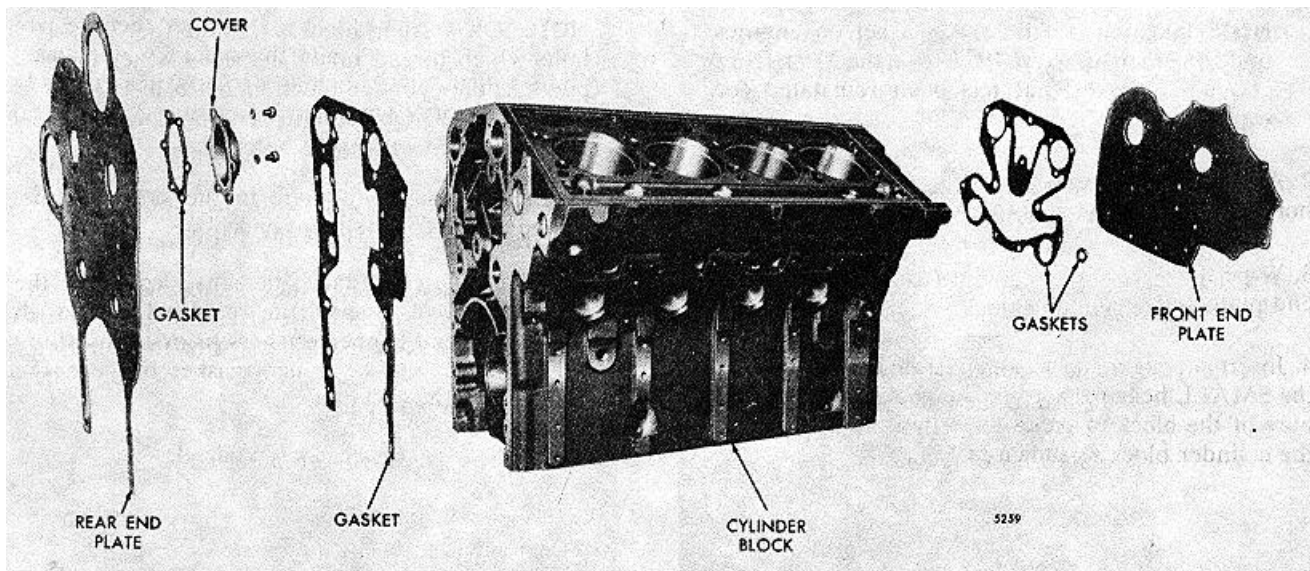

FIG. 1 - Cylinder Block End Plates and Relative Location of Parts
1. Affix new gaskets to the ends of the cylinder block, using a non-hardening gasket cement. Also apply an even coating of gasket cement to the outer surface of each gasket (the surface next to the end plate). Also attach the small round gasket to the corner at the front end of the cylinder block (Fig. 1).